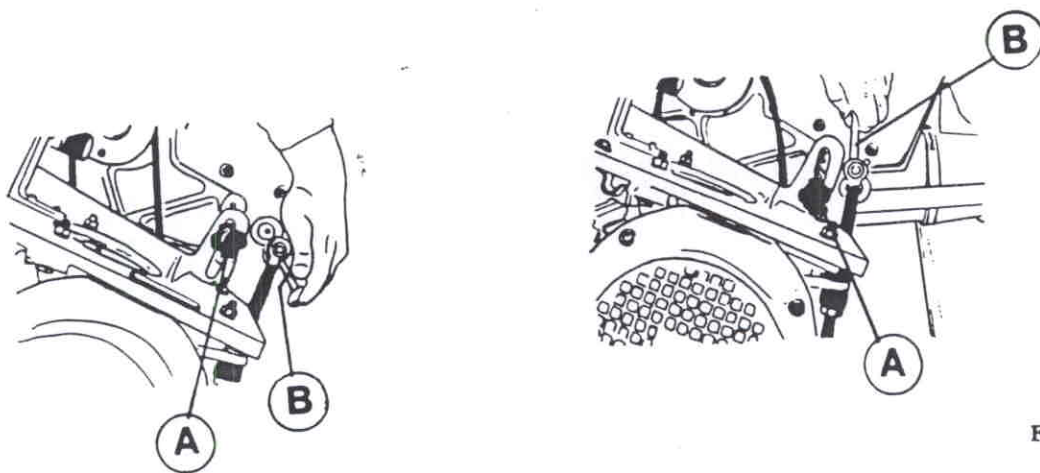

Fig.55
- Loosen knob (A fig.55)
- Turn lever (B) upwards to the end stop: the belt is slack and hands are free
- Turn lever (B) to the initial position to stretch the belt
- Lock knob (A)